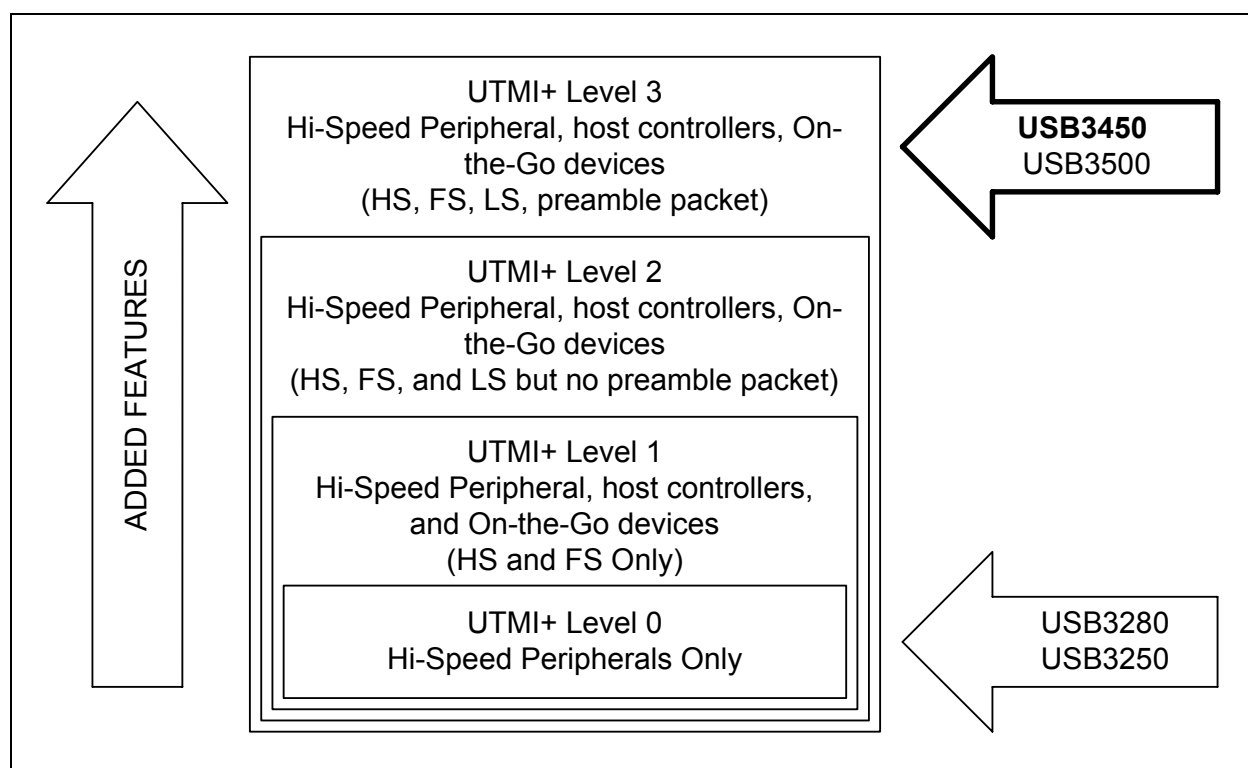

Figure 1.2 UTMI+ Level 3 Support
| Figure 1.2 | UTMI+ Level 3 Support | 7 |
The USB3450 provides a fully compliant Hi-Speed interface, and supports Hi-Speed (HS), Full-Speed (FS), and Low-Speed (LS) USB. The USB3450 supports all levels of the UTMI+ specification as shown in Figure 1.2.